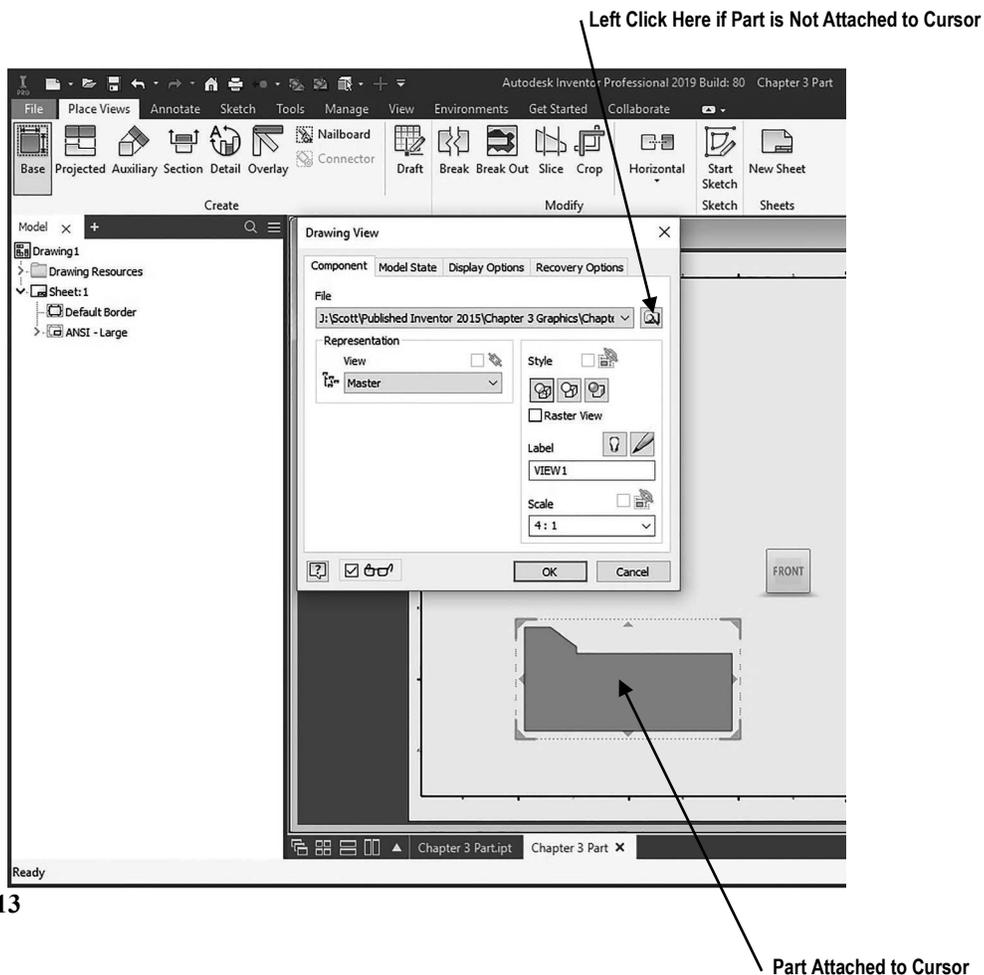

Figure 13
17. The drawing of the wedge block should appear attached to the cursor. Move the cursor around to verify it is attached. If the part does not appear attached to the cursor, use the "Explore" icon to locate the part file as shown in Figure 13.